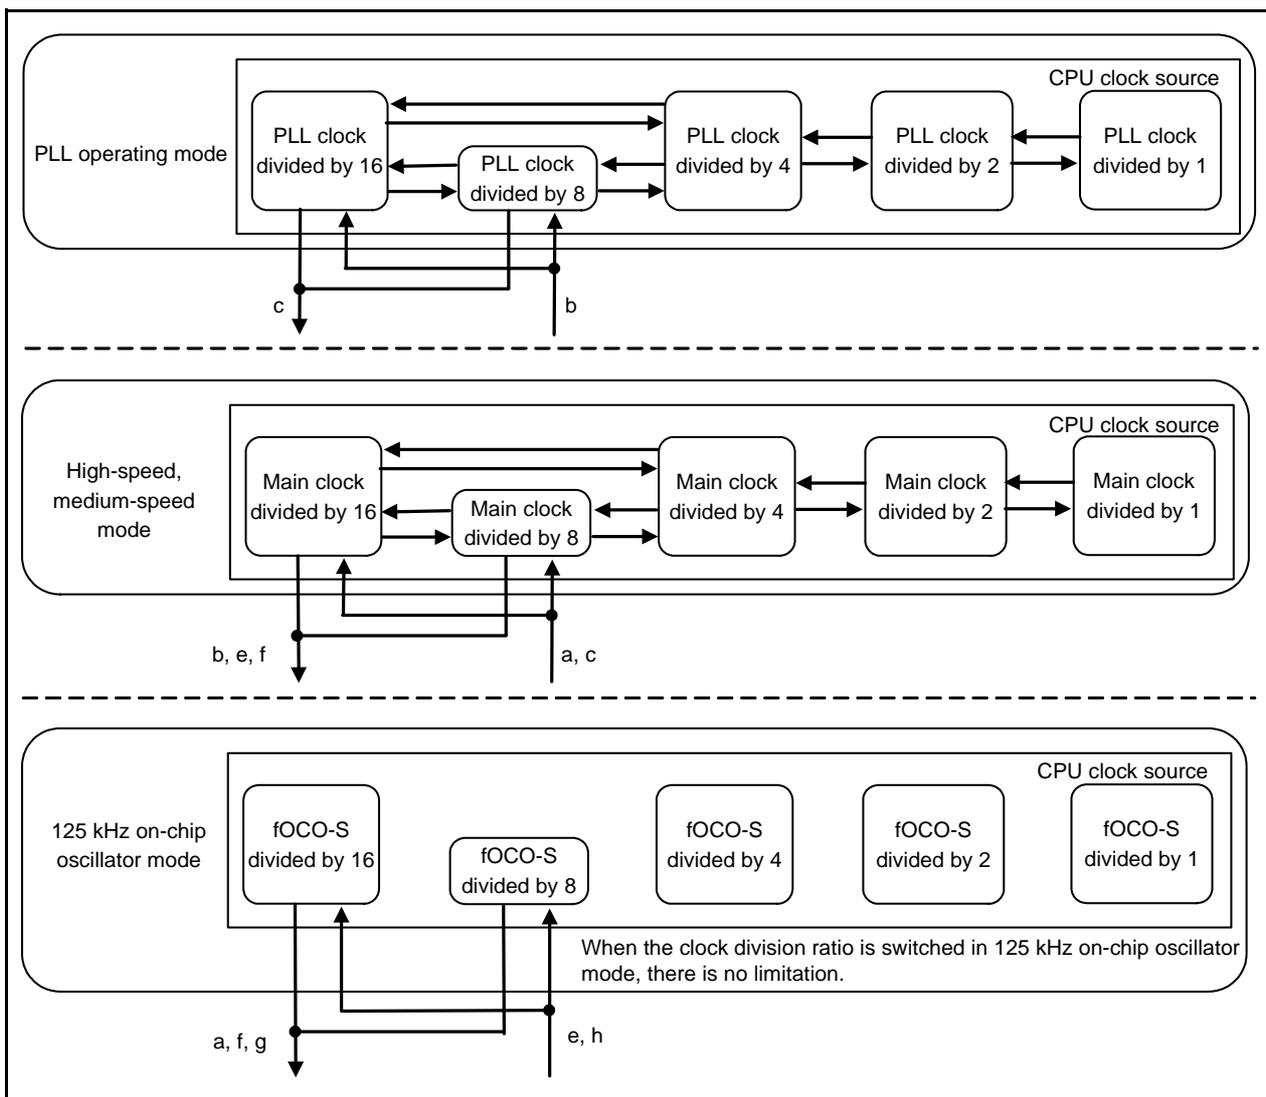

Figure 9.2 Clock Divide Transition
- When the clock division ratio is switched in PLL operating mode, or high-speed or medium-speed mode, the ratio changes in the order shown in Figure 9.2.